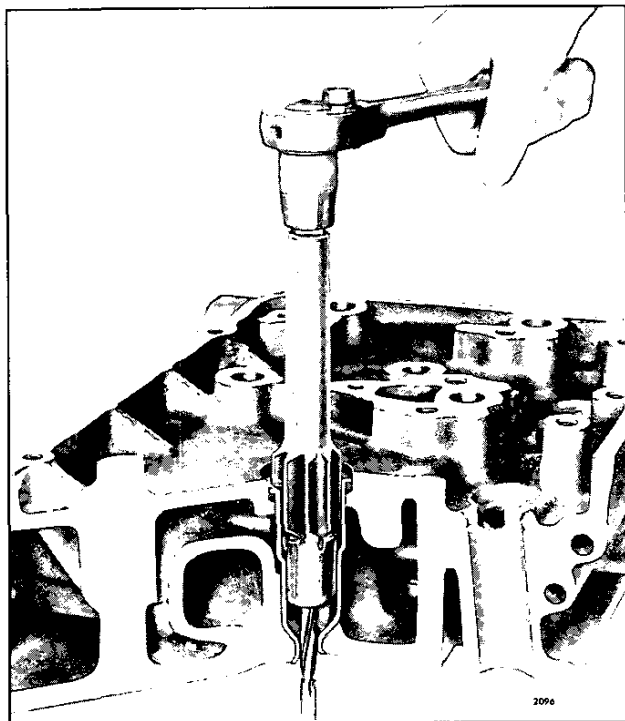

Fig. 5 – Reaming Injector Tube for Injector Body Nut and Spray Tip Using Tool J 22525-1
First, *hand reamed*, as shown in Fig. 5, to receive the injector body nut and spray tip.
- b. Turn the reamer in a clockwise direction (withdrawing the reamer frequently for removal of chips) until the lower shoulder of the reamer contacts the injector tube (Fig. 5). Clean out all of the chips.